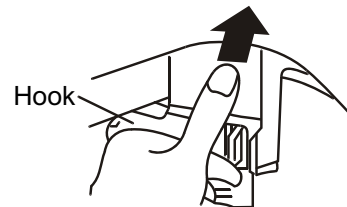

Figure 2
- (1).Install the corrugation pipe.
- (2).Insert the mounting plate at the bottom of the frame into the valve cover.
- (3).Hang up the hook at the left upper side.
- (4).Push the upper part in as indicated in Figure 2.